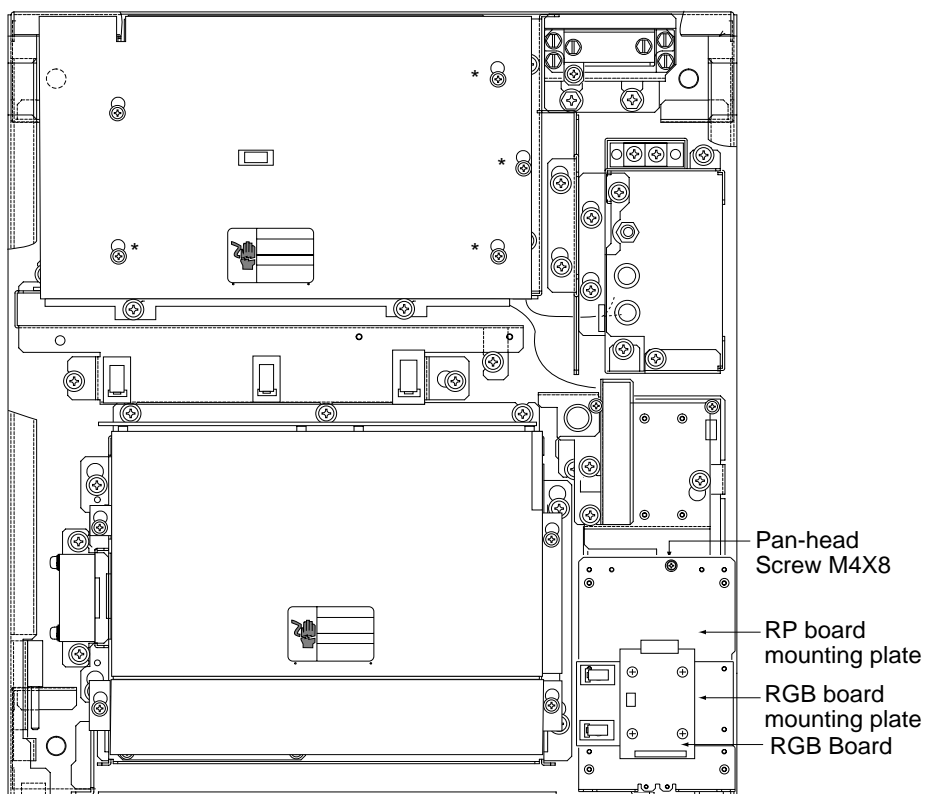

Figure 4-9 Processor unit, inside view
1. Open the processor unit. Unfasten three screws to remove the RGB Board together with its mounting plate. Unfasten the monitor cable at the RGB Board. (See Figure 4-9 on page 4-10 for location.)